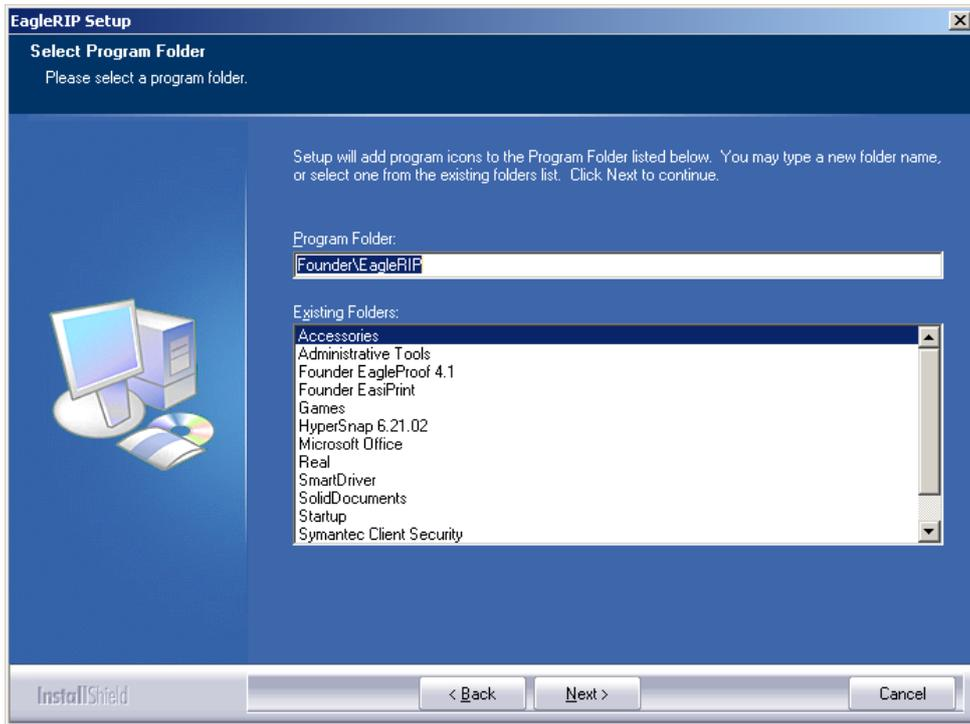

Figure2-3.
6. Click **Next** when the destination drive and folder has been selected. **Select Program Folder** window (shown in Figure2-3) appears.